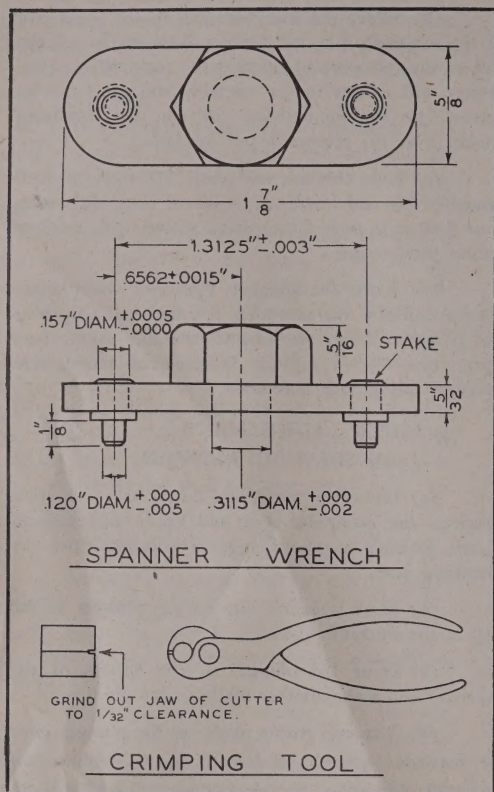

Figure 322 — Special Tools, Servo Unit
(2) SPECIAL TOOLS. (See figure 322.)